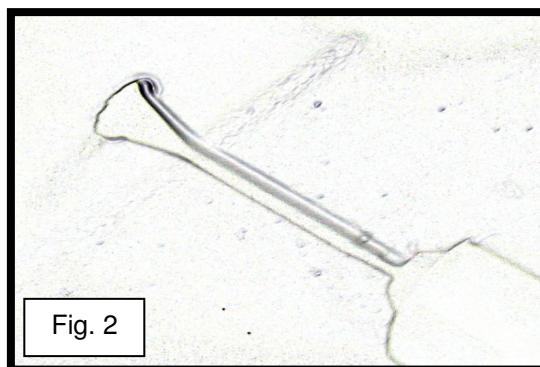

Fig. 2
- 2) Place bit in drill point and proceed to drill a hole for the rubber grommet (see fig. 2). After you have completed this step on your first accumulation center, repeat this step for the other accumulation center that you are joining together. **NOTE: The other accumulation center will have a matching drill point that will oppose the one you drilled out.**